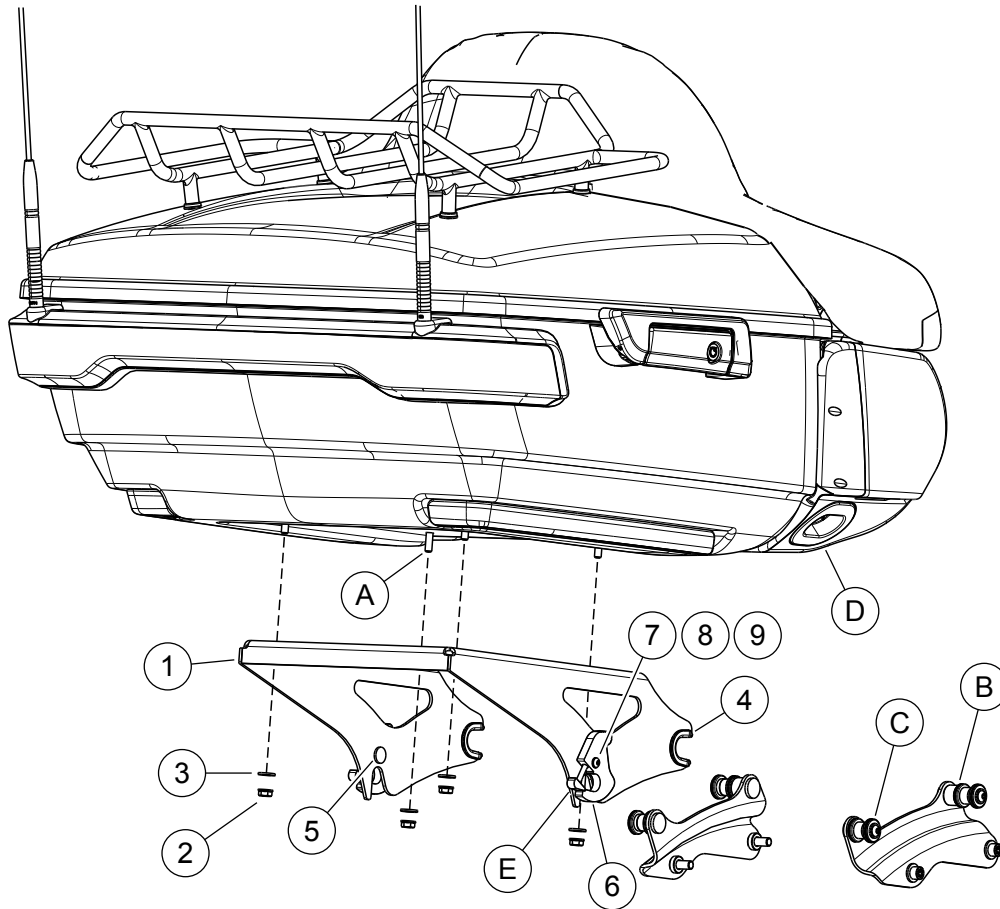

Figure 1. Service Parts: Detachable Two-Up Tour-Pak Rack
See Figure 1 and Table 1.
2. Figure 1 Install Tour-Pak® rack (1) to mounting studs (A) of Tour-Pak (D).
3. Secure with washers (3) and nuts (2).
4. Mounting holes of the Tour-Pak rack are slotted. Adjust position of Tour-Pak (D) on Tour-Pak rack (1).
5. Tighten nuts (2).
1. See Figure 1. Place front Tour-Pak rack notches, with bushings in place onto front docking points (B).
- a. Make sure notch bushings (4) seat fully into front docking points.
2. Position detachable latches (6) over rear docking points (C).
- a. Verify rack (1) sides and latches locate into rear docking points.